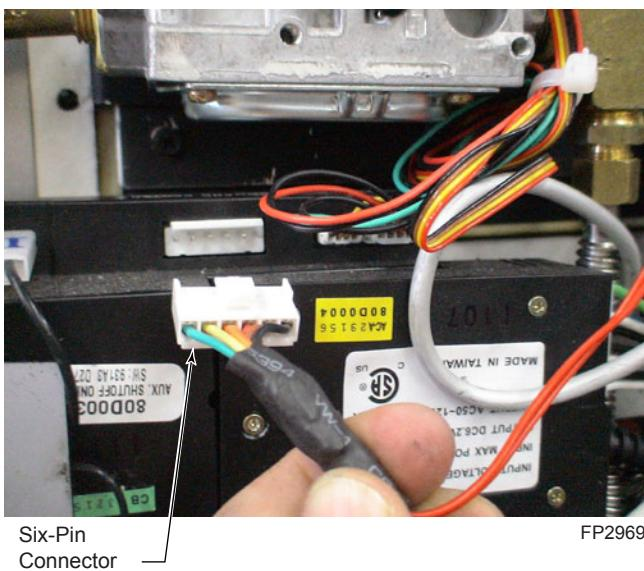

Figure 14 -
3. Disconnect command center cable from control board by disconnecting six-pin connector. Set aside. *Figure 14*